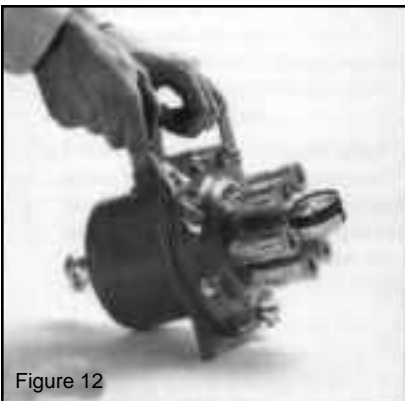

Figure 12
- c) Remove the eight (8) wing nuts (with a wrench or pliers) and bolts holding the quick-disconnect coupler manifold to the pod (Figure 12).